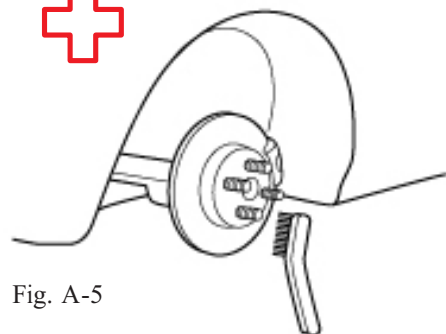

Fig. A-5
-   6. If required remove any corrosion on the mounting surface of the vehicles with a wire brush. Wear safety glasses to protect against dust. (Fig. A-5)